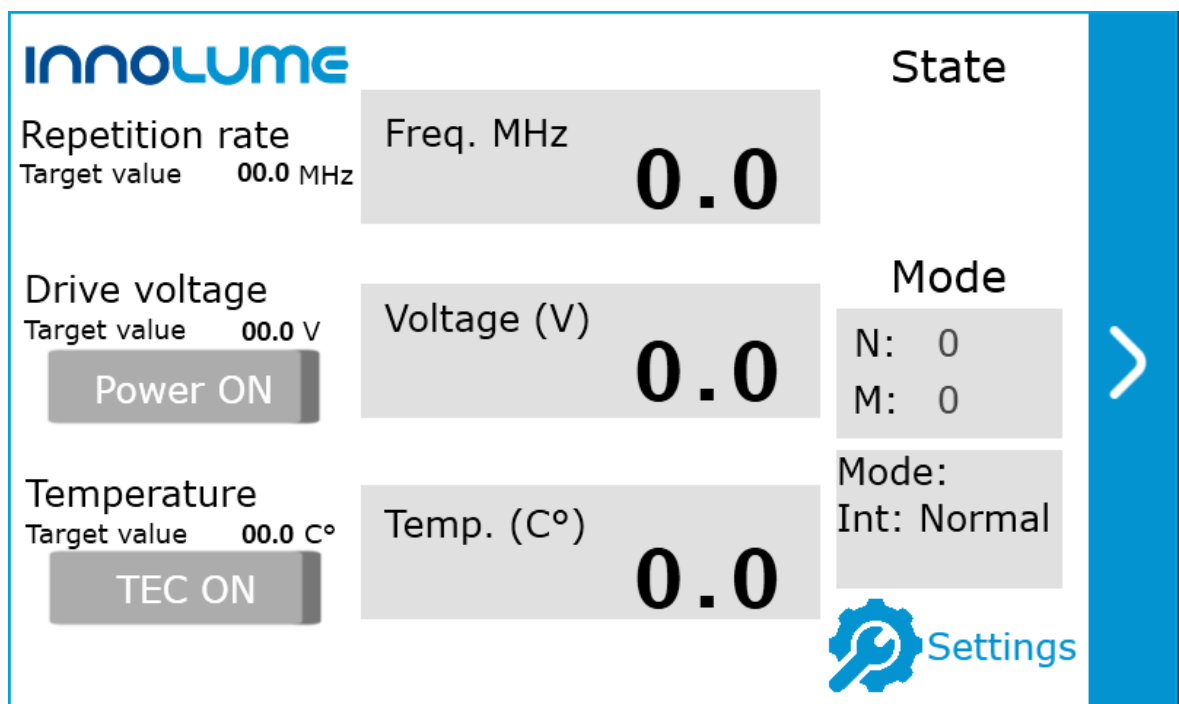

Figure 16 – PS driver menu
- In PS driver menu (fig. 16) press  Settings to go to the settings menu.